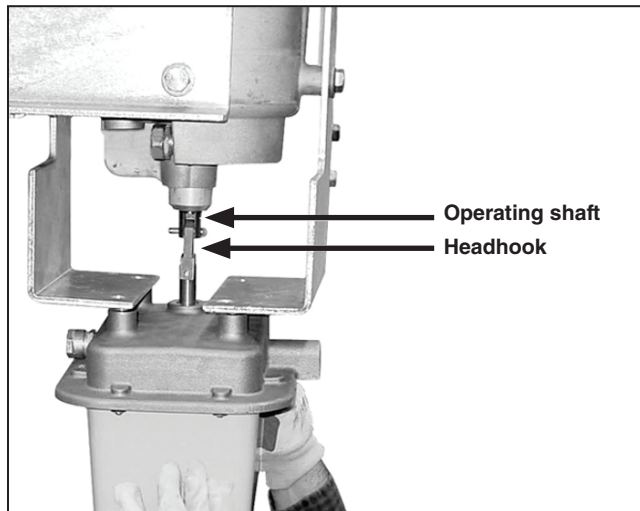

Figure 41. Attach the motor to the operating shaft.
STEP 3. Hook the headhook onto the operating shaft pin. The headhook should hang securely from the operating shaft. Turn the motor until the mounting bosses align with the holes in the mounting brackets. See Figure 41.